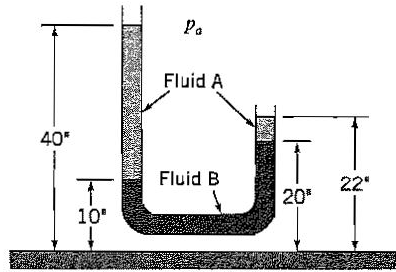

Figure P2.12
2.12 For the manometer shown in Figure P2.12, both legs are open to the atmosphere. It is filled with liquids A and B as indicated. Find the ratio of the liquid densities.